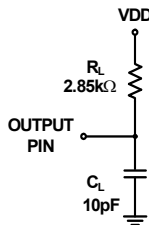

FIGURE 4. EQUIVALENT LOAD CIRCUIT
- 9. During characterization, t_{DISABLE} is measured from the release point with a 10pF load (see Figure 4) and the equivalent timing using the AD7452 loading (25pF) is calculated.